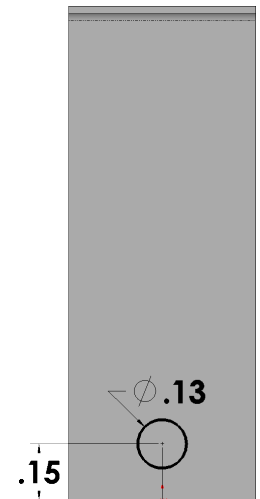

Fig. 8
Step 5. Click **Smart Dimension**  (S) on the Sketch toolbar.
Step 6. Add dimensions, **Fig. 8**.